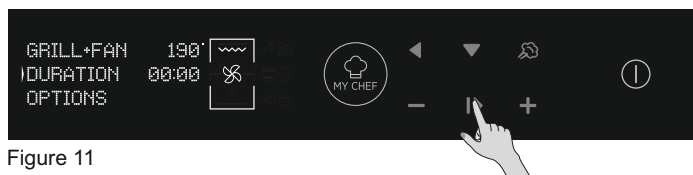

Figure 11
- Press DOWN to change the cooking duration. It is done by pressing PLUS and MINUS Buttons while arrow on the display at DURATION Tab. Press OK to begin the cooking or BACK to return to the temperature setting. (Figure 11)